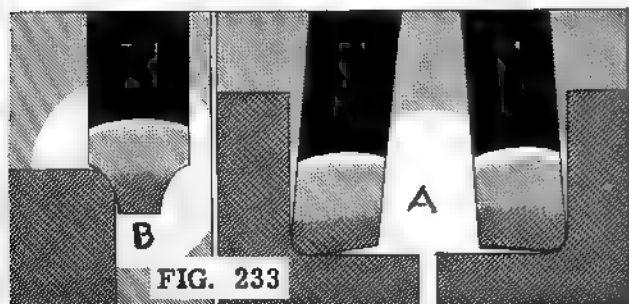

FIG. 233
Convenient tools for rounding the edge or for cutting the radius of a corner are called radius tools (Fig. 233). These tools are made in two styles to suit either an inside or an outside radius. The inside radius tool (A),